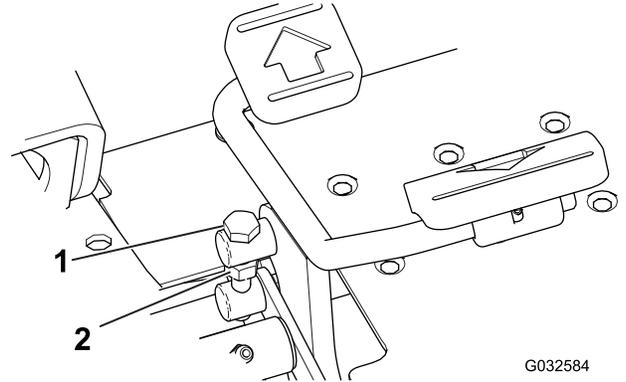

Figure 48
1. Loosen the jam nut on the trunnion bolt on the side of the traction pedal (Figure 48).